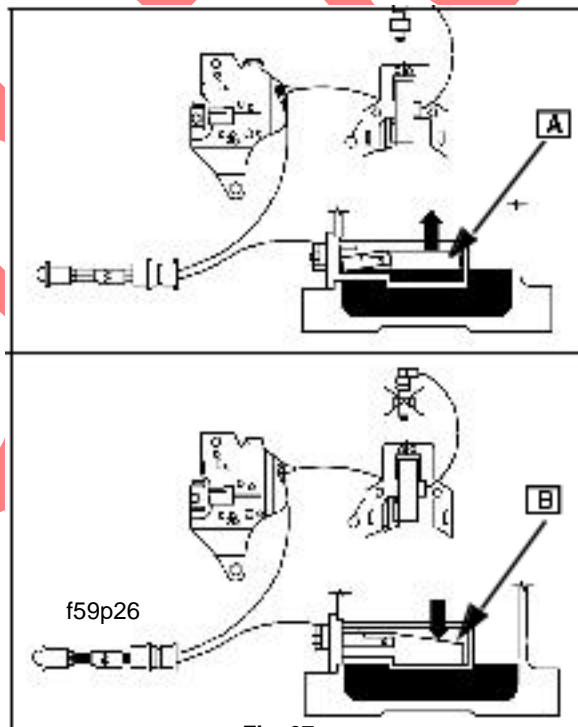

Fig. 27
This system uses a float to operate a magnetic switch. When the oil level is correct, the float rises (A) and opens the switch. When the oil level is low, it drops ([B] Fig. 27) and closes the switch. This causes two things to occur: